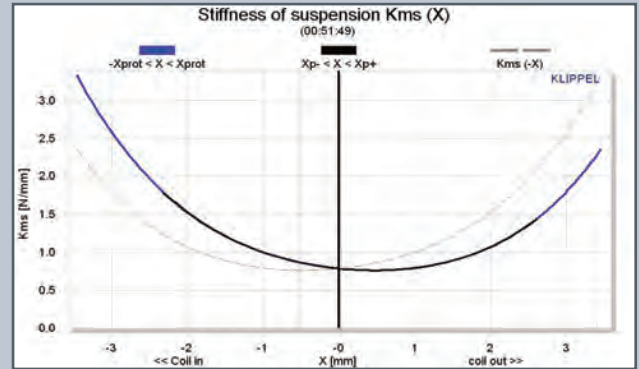

FIGURE 7: Klippel Analyzer mechanical stiffness of suspension $K_{ms}(X)$ curve for the Wavecor FR070WA01.
Figures 7 and 8 show the Kms(X) and Kms symmetry range curves for the Wavecors full-range driver. The Kms(X) curve is definitely very symmetrical, and has a very minor forward (coil-out) offset of less than 0.5mm at the rest position. FR070 displacement limiting numbers calculated by